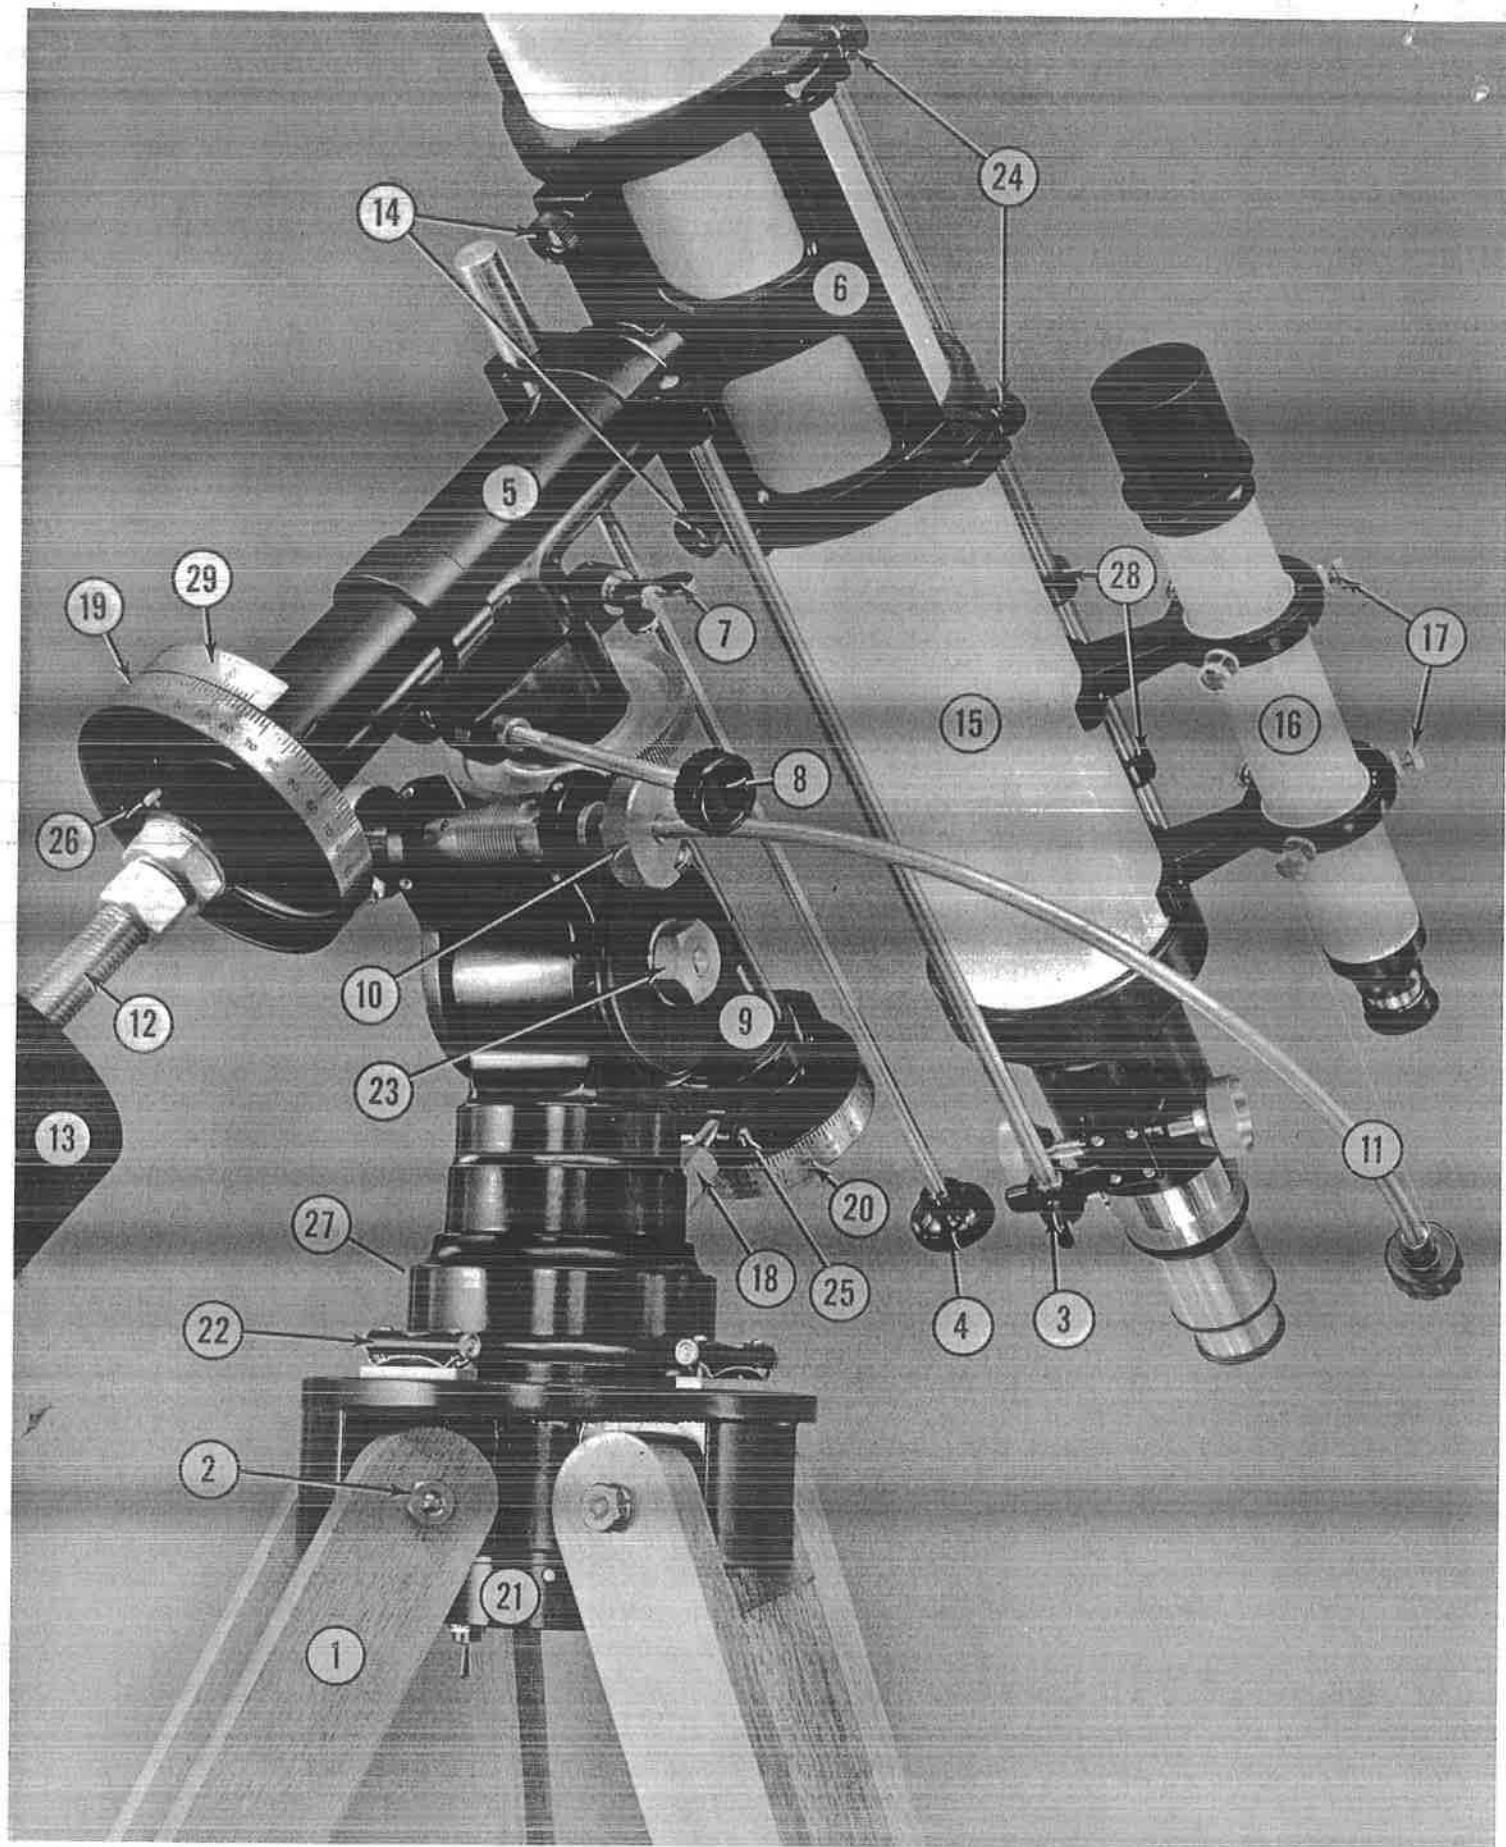

Fig. 1: UNITRON Equatorial Refractor
27. Azimuth locking screw (not visible in Fig. 1)